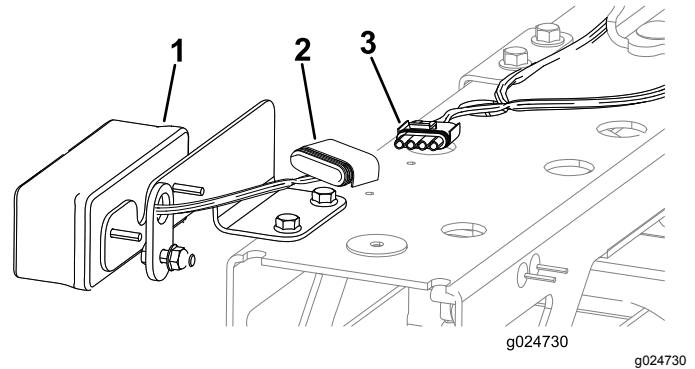

Figure 59
4. Connect the turn signal electrical connectors (Figure 59) as follows: